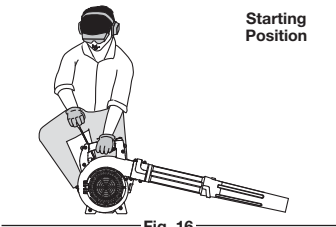

Fig. 16
WARNING: Avoid accidental starting. Make sure to be in the starting position when pulling the starter rope (Fig. 16). To avoid serious injury, the operator and unit must be in a stable position while starting.
5. **Do not squeeze the trigger.** Crouch in the starting position (Fig. 16). Pull the starter rope 5 times in a controlled motion.
5. Crouch in the starting position (Fig. 16). Insert the Electric Start or Power Start Bit™ accessory into the Electric Start or Power Start Bit™ port on the side of the unit (Fig. 33). Refer to the *Operation* section of the Electric Start or Power Start Bit™ accessory operator's manual.